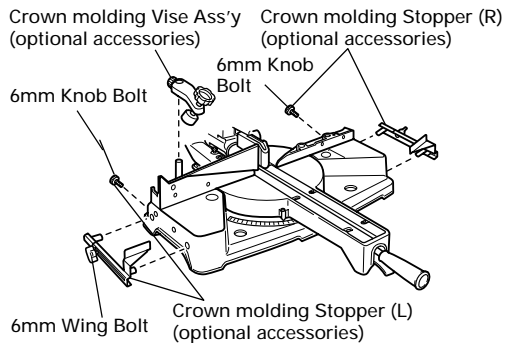

Fig. 44
(1) Crown molding Stopper (L) and (R) (optional accessories) allow easier cuts of crown molding without tilting the saw blade. Install them in the base both-sides side to be shown in Fig. 44. After inserting Tighten the 6mm knob bolts to secure the crown molding Stoppers.